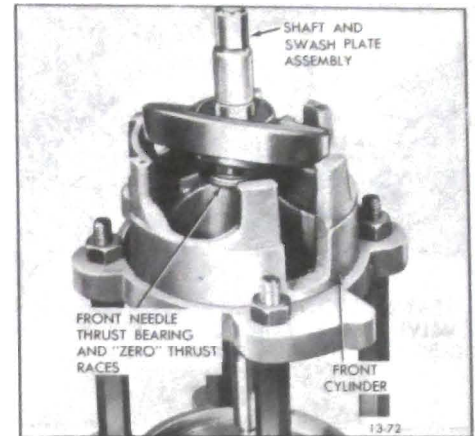

Figure 13-96 Shaft and Front Needle Thrust Bearing in Cylinder Half
2. Place front cylinder on top of compressing fixture (J-9397) as shown in Figure 13-96.
3. Generously coat with clean petroleum jelly two "zero" thrust races, and a new needle thrust bearing. Assemble races and bearing to front end of shaft and swash plate assembly and insert assembly into front cylinder (see Figure 13-96.)